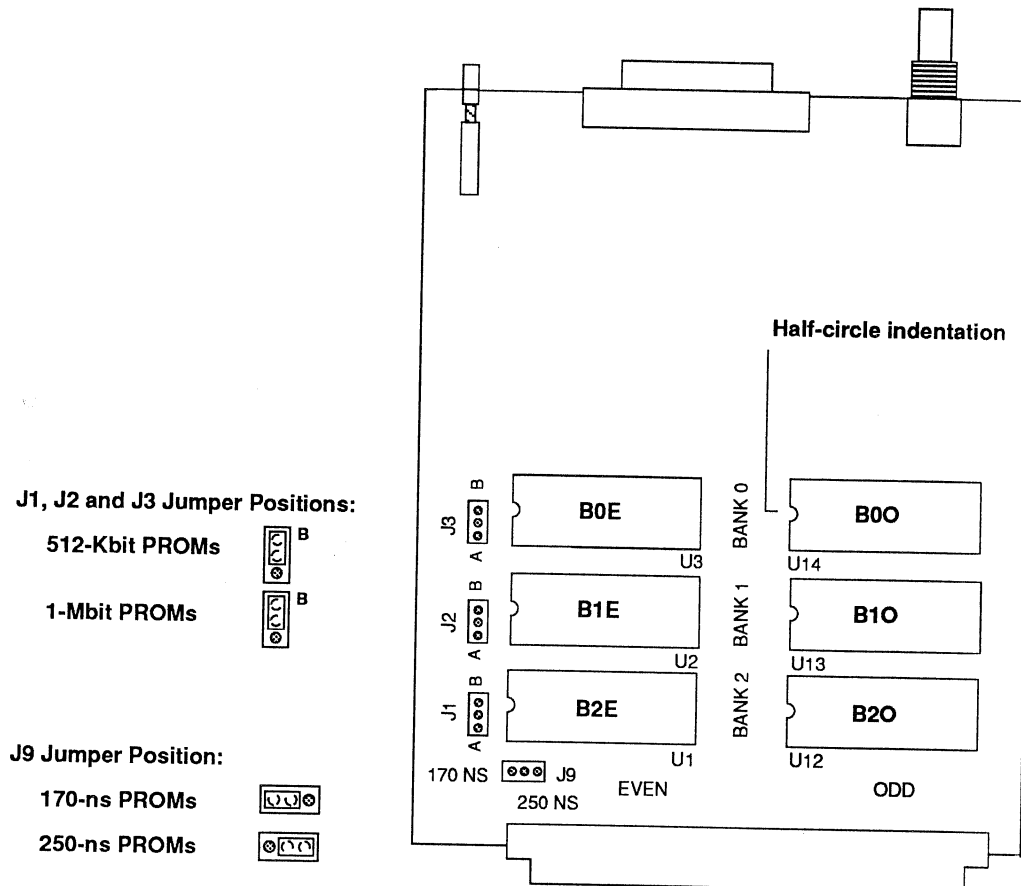

Figure 4. Typical Communications Interface Module
7. Place the module in front of you, oriented as shown in Figure 4.
Using Figure 4, inspect the PROM sockets on the circuit board, noting where PROMs are currently installed. There should be PROMs in Bank 0. There may also be PROMs in banks 1 and 2. The new PROMs will occupy all three banks.
Your Communications Interface Module may have different connectors from those shown in Figure 4. The PROM installation procedure is the same for all modules.
9. Set Jumper J9, located on the lower left side of the board, to correspond with the speed of the PROMs. The correct positions are also shown in Figure 4.
10. Set Jumpers J1, J2, and J3, located to the left of the PROM sockets, to correspond with the size of the PROMs. The correct positions are also shown in Figure 4.